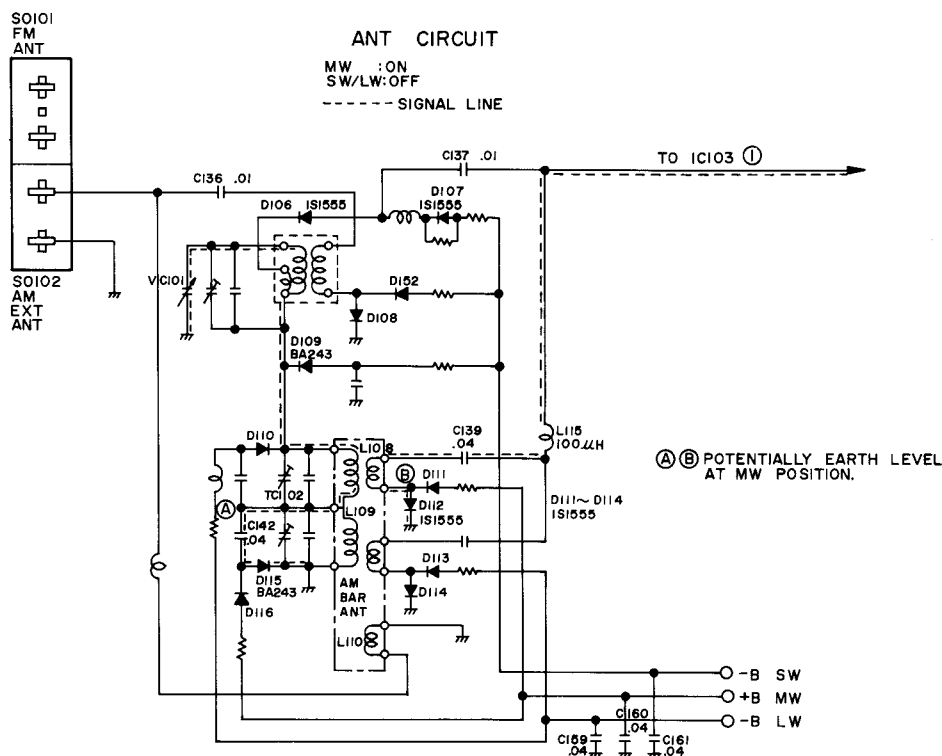

Figure 17-1
2.1.1 AM Antenna Circuit (Refer to Figure 17-1)
Switching operation by the oscillator circuit is the same as in the AM antenna circuit shown in Figure 17-1.